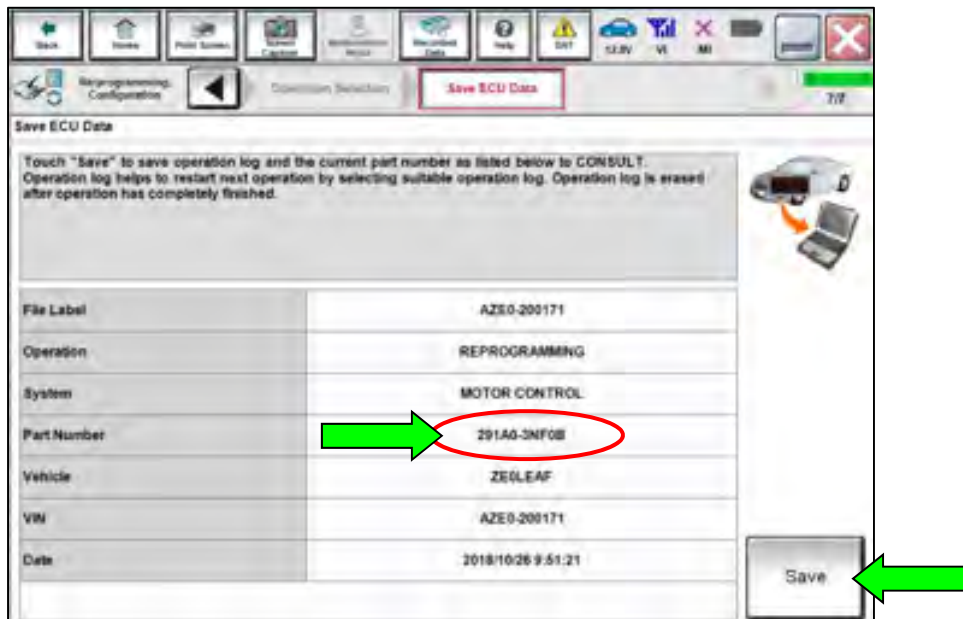

Figure 23
37. When you get to the screen shown in Figure 23, find the **MOTOR CONTROL Part Number** and write it on the repair order.